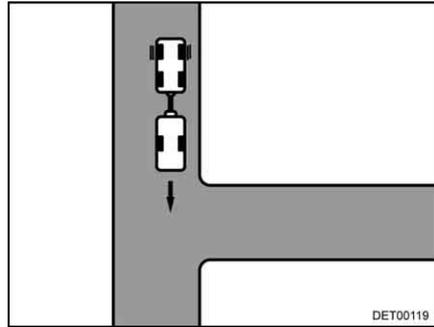

Fig. 18 Approach
- Drive up to the entrance until the rear of the caravan is roughly level with the entrance (Fig. 18).